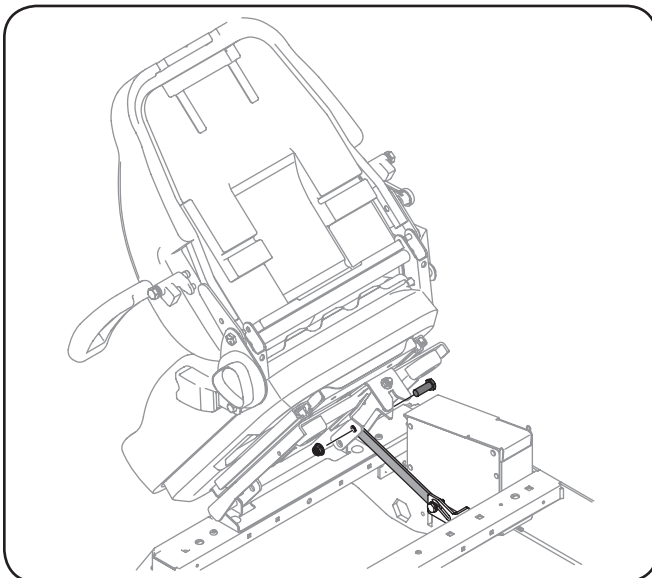

Figure 3-10
3. Remove the shoulder screw and flange lock nut from the manual bag and install the support cable/rod with the hardware as shown in Figure 3-10.